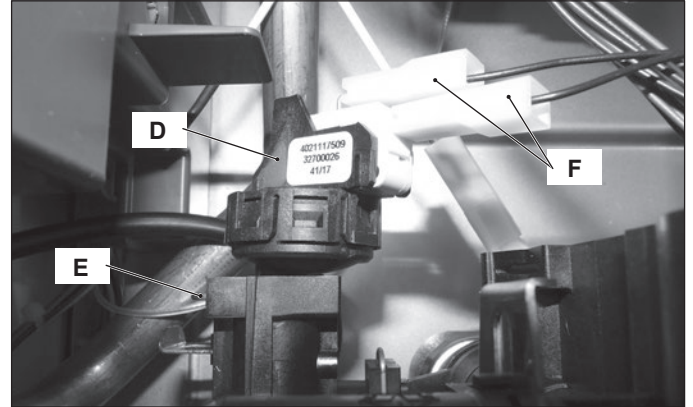

Figure 12.3
- 2 Remove the fixing spring "E" (Figure 12.3) and remove the primary circuit pressure switch "D".
- 3 Disconnect the connectors "F" (Figure 12.3).